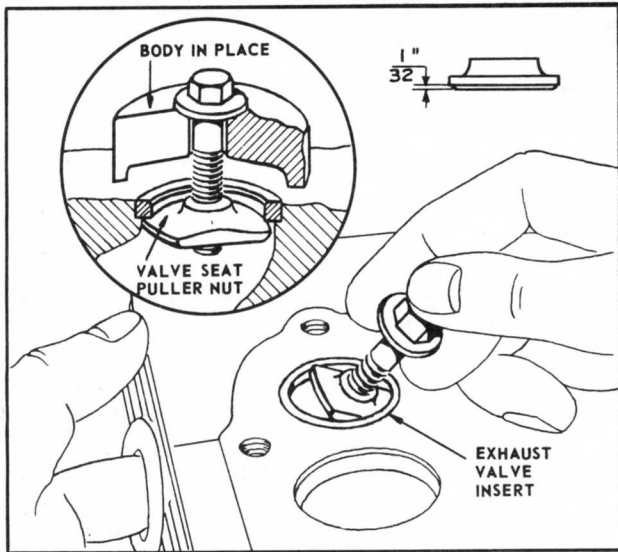

FIGURE 5-9
1. Install the insert puller as shown in figure 5-9. Make sure the puller body does not contact the insert.
NOTE: If the puller nut does not fit under the insert, grind the edge to a $1/32''$ (0.8 mm) thickness. See figure 5-9.